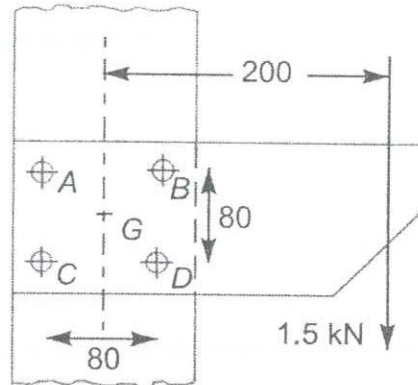

Figure Q2
- c) Figure Q2 shows a bracket designed to carry a vertical load 1.5 kN, applied at a distance 200 mm. The bracket is secured to the flat side of a vertical surface by four screws A, B, C and D such that ABCD forms a square of side 80 mm with center G. With the aid of a sketch of loading of each screw, identify the most stressed screw. [2.0 Marks]